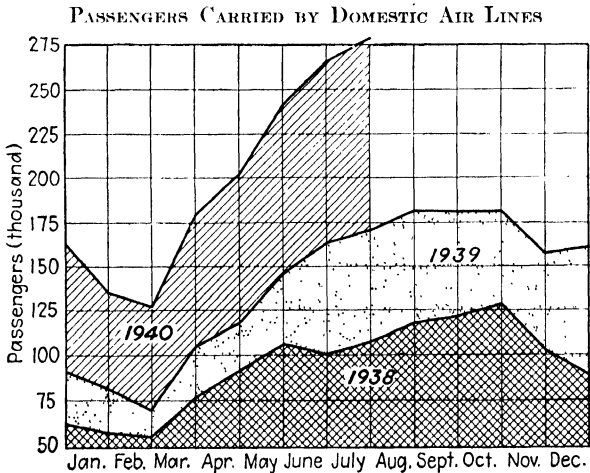

Fig. 145.
1. Construct three tables of data from the graph in Fig. 145. This is really 3 graphs on one set of axes. Not only does it show how the number of passengers varied from